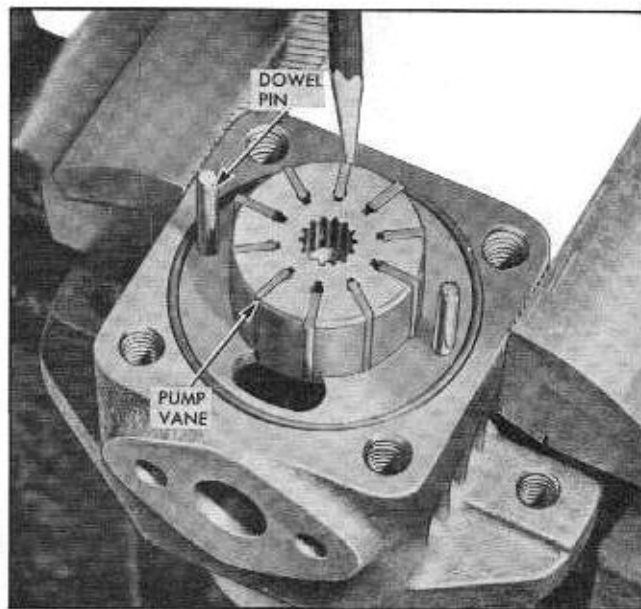

Fig. 9-76 Removing Pump Vanes
10. Remove ten pump vanes (Fig. 9-76).